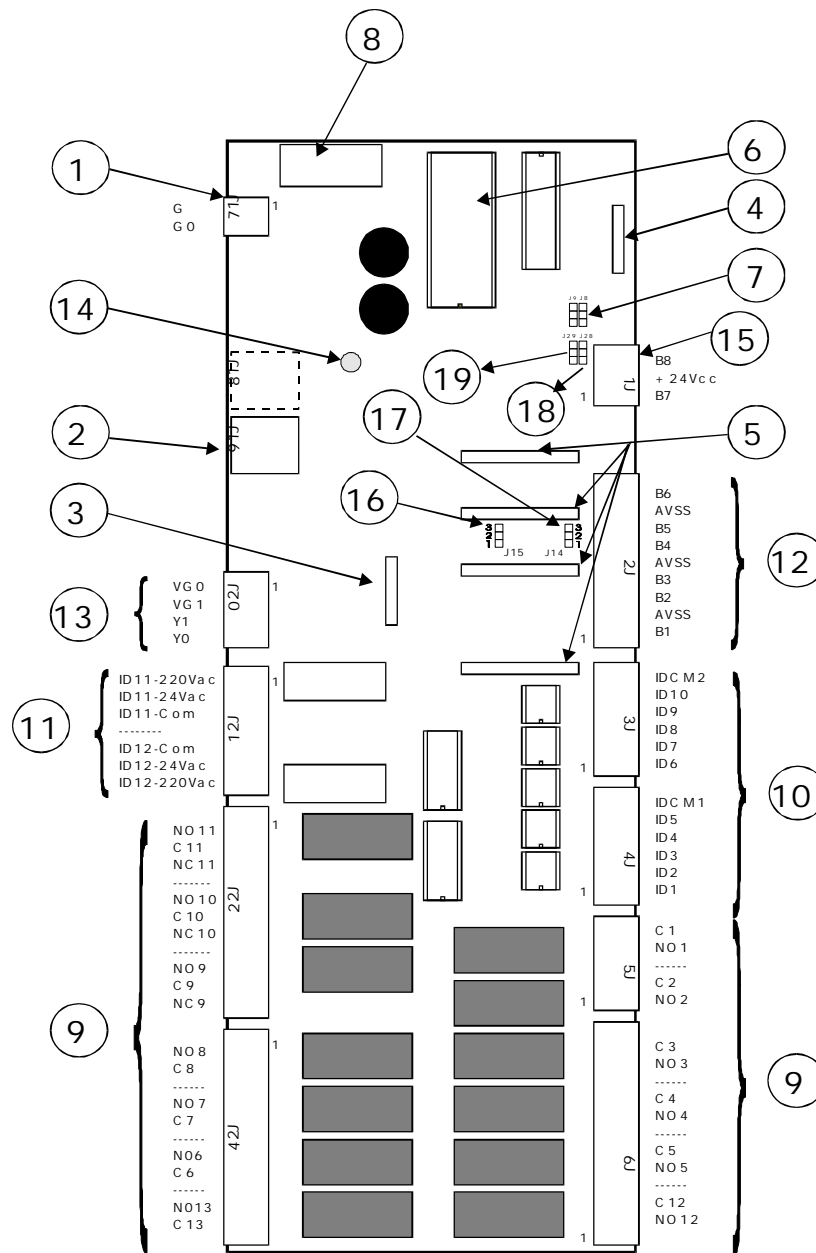

Figure 18
**Figure 18 references, page 22**